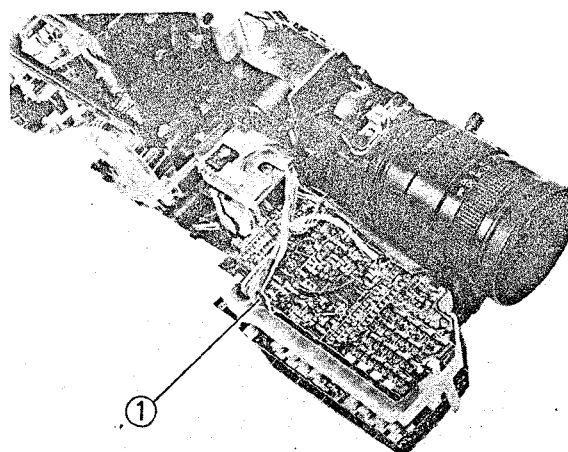

Fig. 2-39 EVF Connector Removal
EVF Connector Removal (Figs. 2-39, 2-40, 2-41)
1. Disconnect connector CN1505. (See Fig. 2-39)